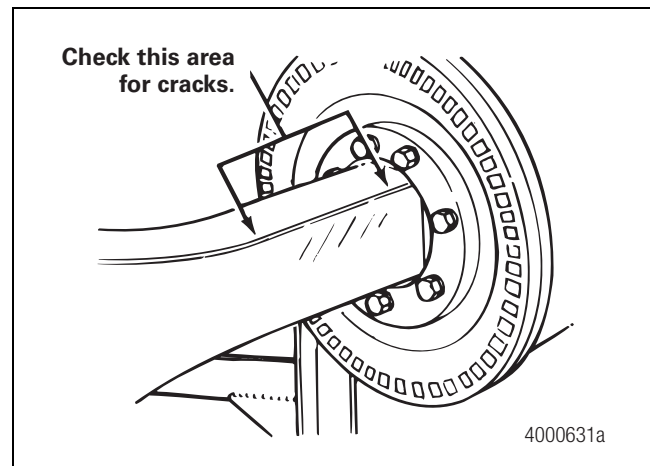

Figure 3.10
11. Grind the repaired area smooth and flat with the housing wall. Check the repaired area for cracks. Figure 3.10.